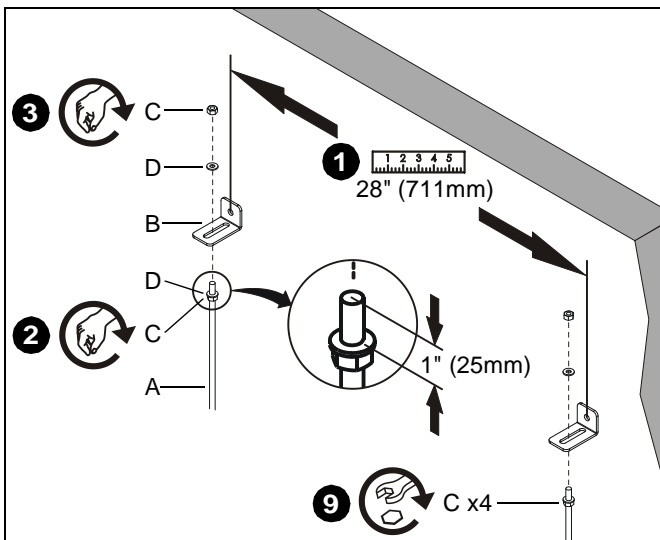
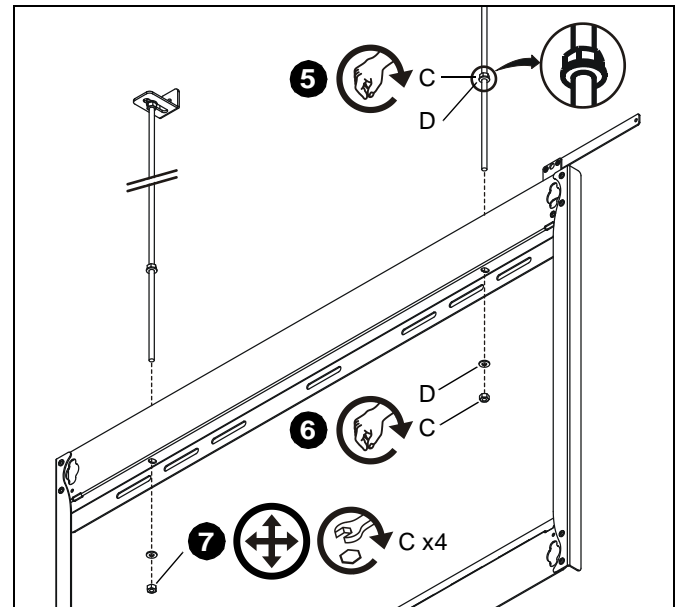

Figure 1
Figure 3
2. Thread nut (C) on end of threaded rod (A) approximately 1" (25mm), followed by washer (D) (See Figure 1).
3. Insert threaded rod (A) up through slot in bracket (B) (See Figure 1). Install washer (D). Secure with nut (C), but do NOT tighten at this time. Repeat steps 2 and 3 for second threaded rod (A).
5. Install nut (C) on lower end of each threaded rod (A) so that PSMH2501 mount will be at desired height (See Figure 3).
6. Install washer (D) on each threaded rod (A), followed by PSMH2501 mount, washer (D), and nut (C) (See Figure 3).
7. Adjust height and level of MSP-TB1 as required, then tighten 4 nuts (C) located on *lower* ends of threaded rods (A) (See Figure 3). Ensure at least two full threads protrude beyond end of each nut. Do NOT tighten nuts (C) on *upper* ends of threaded rods at this time.
8. Peel backing from double sided tape and secure mount to wall. Be careful to not bend brackets (B).
9. Tighten 4 nuts (C) located on *upper* ends of threaded rods (A) (See Figure 1). Ensure at least two full threads protrude beyond end of each nut.